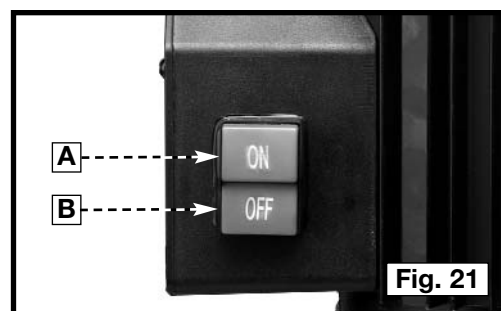

Fig. 21
The power switch is located on the left side of the mortiser. To turn the mortiser “ON”, press the green start button (A) Fig. 21. To stop the mortiser, push the red button (B).